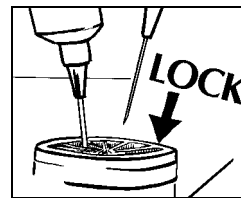

Fig. 1
- Perform skin wheal with desired needle (25 Ga. or 22 Ga. needle). A SharpsAwayII™ Locking Disposal Cup is used for the disposal of needles. Firmly push needles into disposal cup holes (refer to Fig. 1). Once placed into disposal cup, needles will be automatically locked in place so that they can not be reused. Discard entire cup at completion of procedure. **Precaution: Do not attempt to remove needles that have been placed into cup. These needles are permanently locked in place. Damage may occur to needle if it is forced out of disposal cup.**